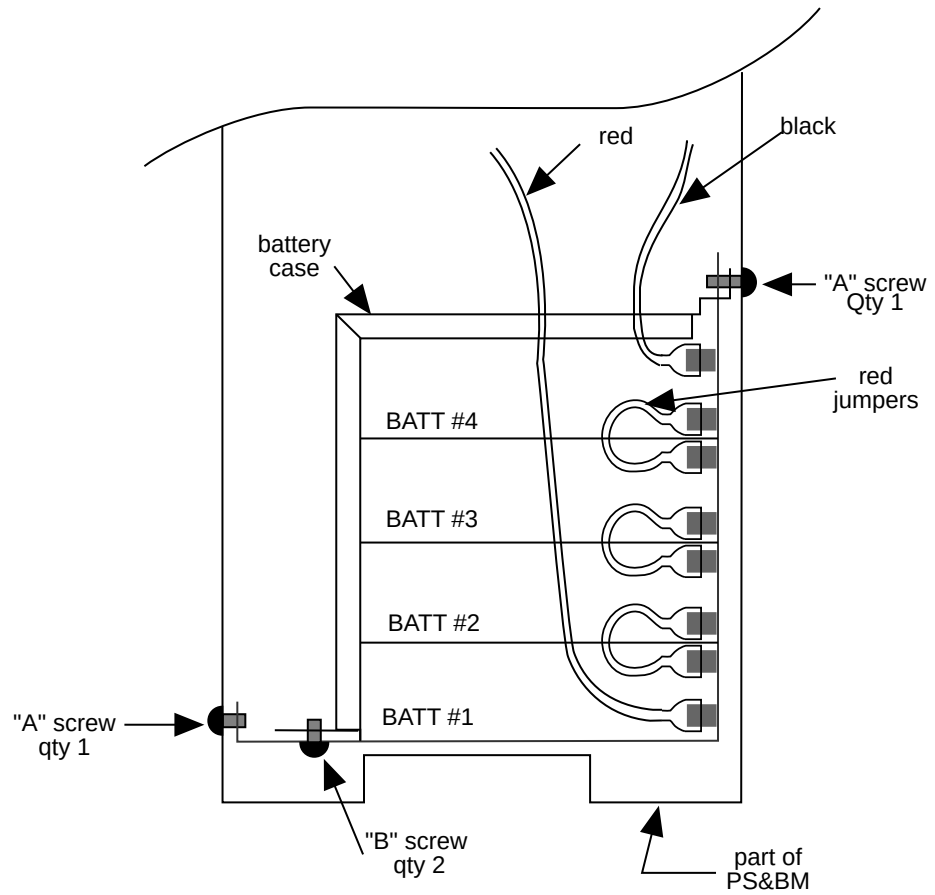

Figure A-1. Battery Module of the MAP/100
2. Remove the screws marked "A" from the PS&BM as shown in Figure A-1.
7. Remove the two screws marked "B" in Figure A-1 from the bottom of the battery case.
1. Install the four batteries in the two pieces of sheet metal that make up the battery case with their terminals oriented as shown in Figure A-1.
3. Connect the batteries together with the three red jumpers as shown in Figure A-1.